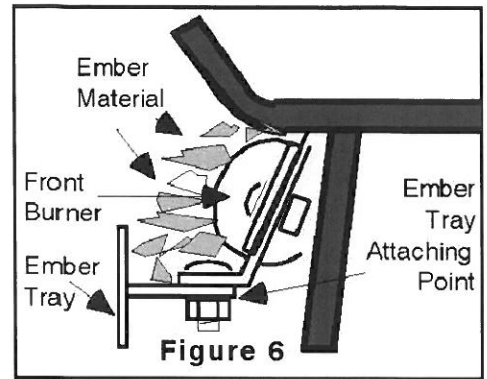

Figure 6
1. Attach ember tray to the front two legs of the grate with the nuts and bolts provided on grate. **See Figure 6.**
ember effect! **See Figure 6.**